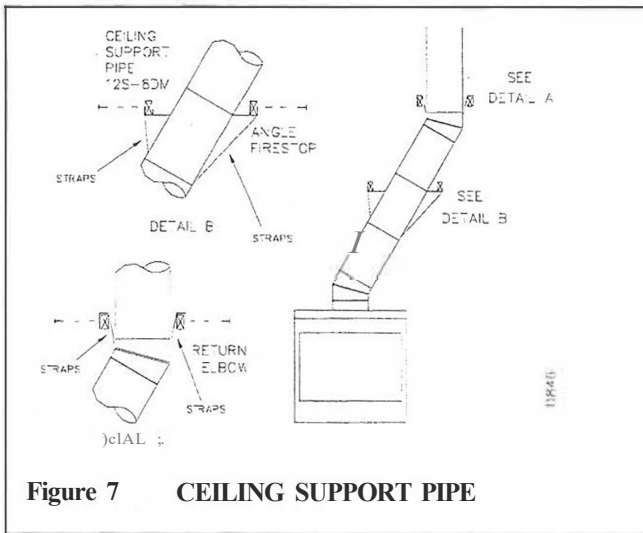

Figure 7 CEILING SUPPORT PIPE
2. Chimney weight above offset rests on return elbow. Straps must be securely nailed to rafters or joists (see figure 7, details a & b).